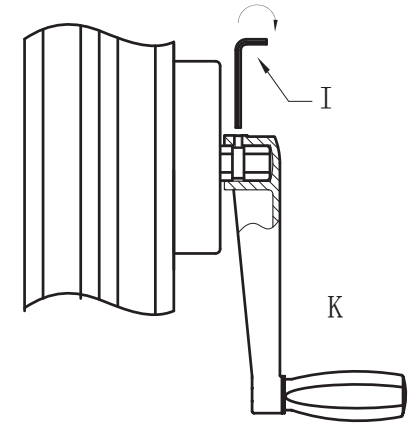

Fig.3
3. Assemble the crank handle to slide hinge, see Fig.3